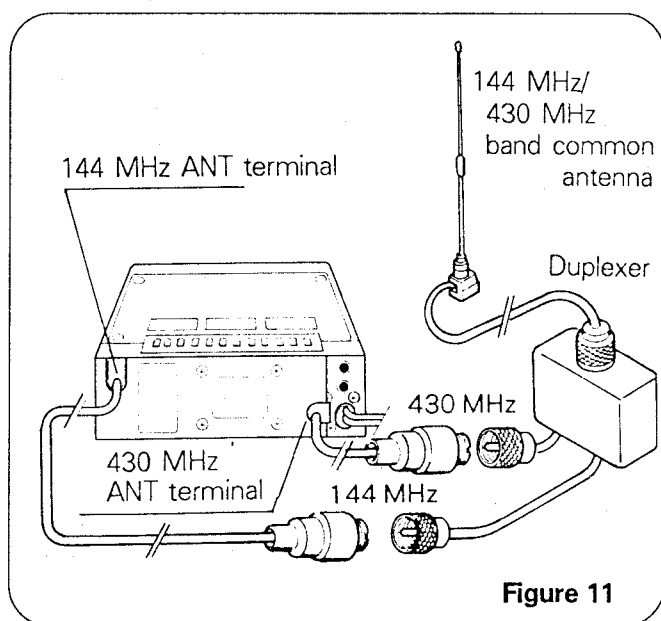

Figure 11
② When connecting to common antenna (Figure 11)